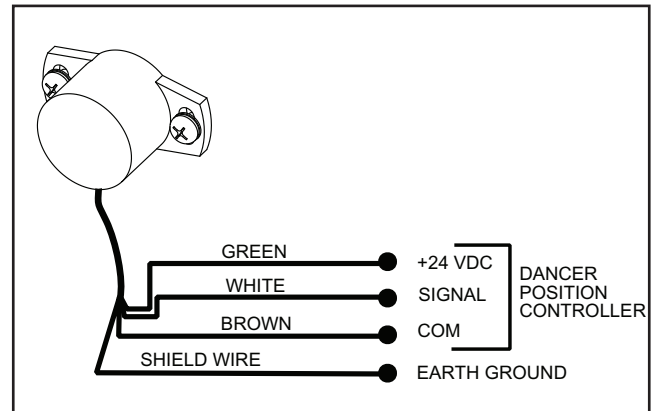

Figure 6
2. Connect the signal cable to a controller (See Figure 6).
3. Using a voltmeter, measure the voltage across the green (+) and brown (-) wires (See figure 6). The voltage reading must match the supply voltage for proper operation (See Specifications).
Input power polarity is backwards	Check polarity of the power supply. Connect the Dancer Position Sensor according to Figure 6.